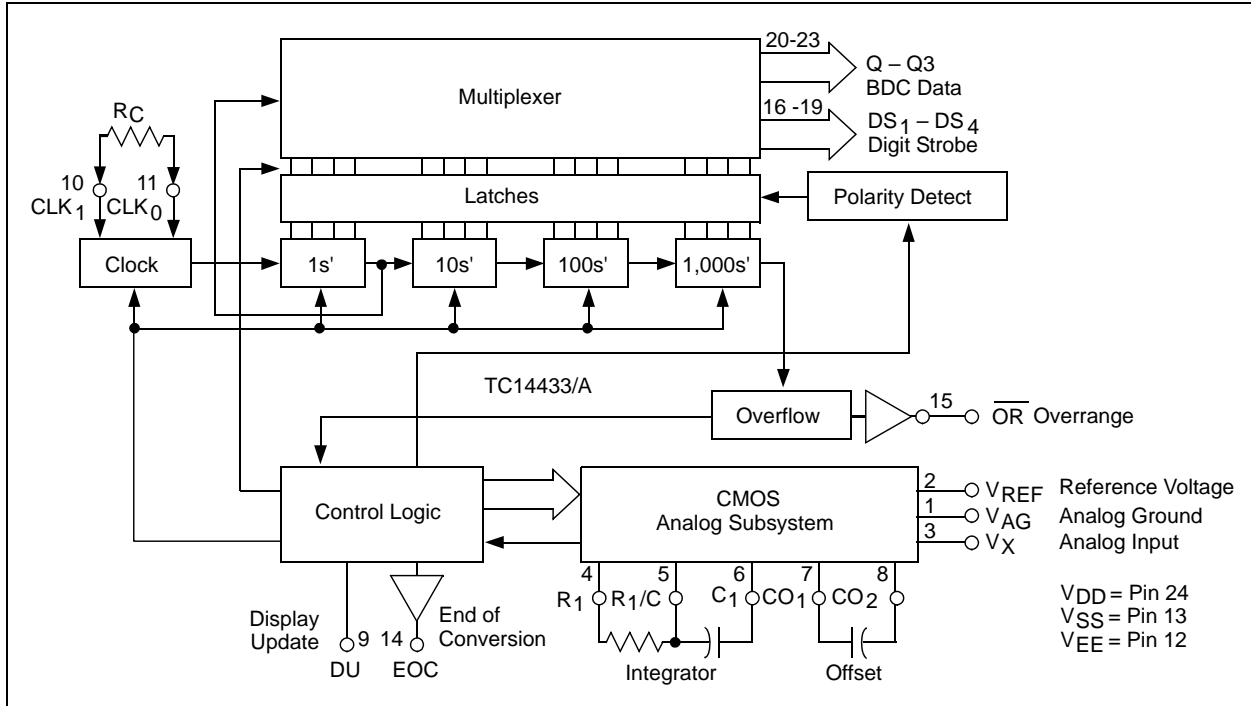

**FIGURE 4-2:** Equivalent Circuit Diagrams of the Analog Section During Segment 4 of the Timing Cycle
**Segment 4** – Segment 4 is an up going ramp cycle with the unknown input voltage ( $V_X$  as the input to the integrator. Figure 4-2 shows the equivalent configuration of the analog section of the TC14433. The actual configuration of the analog section is dependent upon the polarity of the input voltage during the previous conversion cycle.